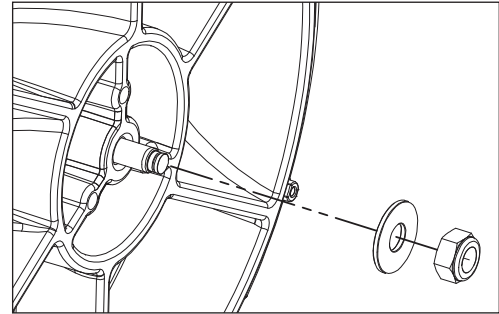

FIGURE 9.5
2. Place the flat washer onto the shaft and start the nylock nut onto the shaft threads. (Figure 9.5)